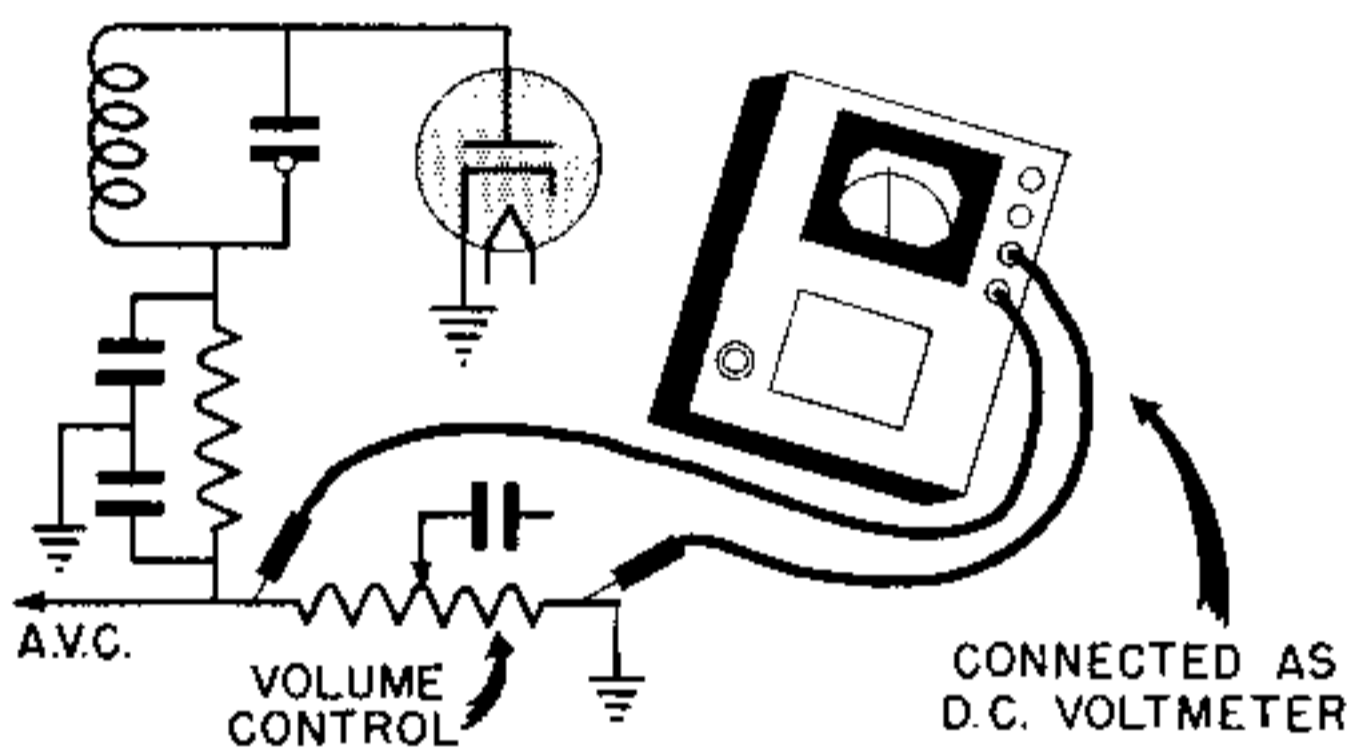
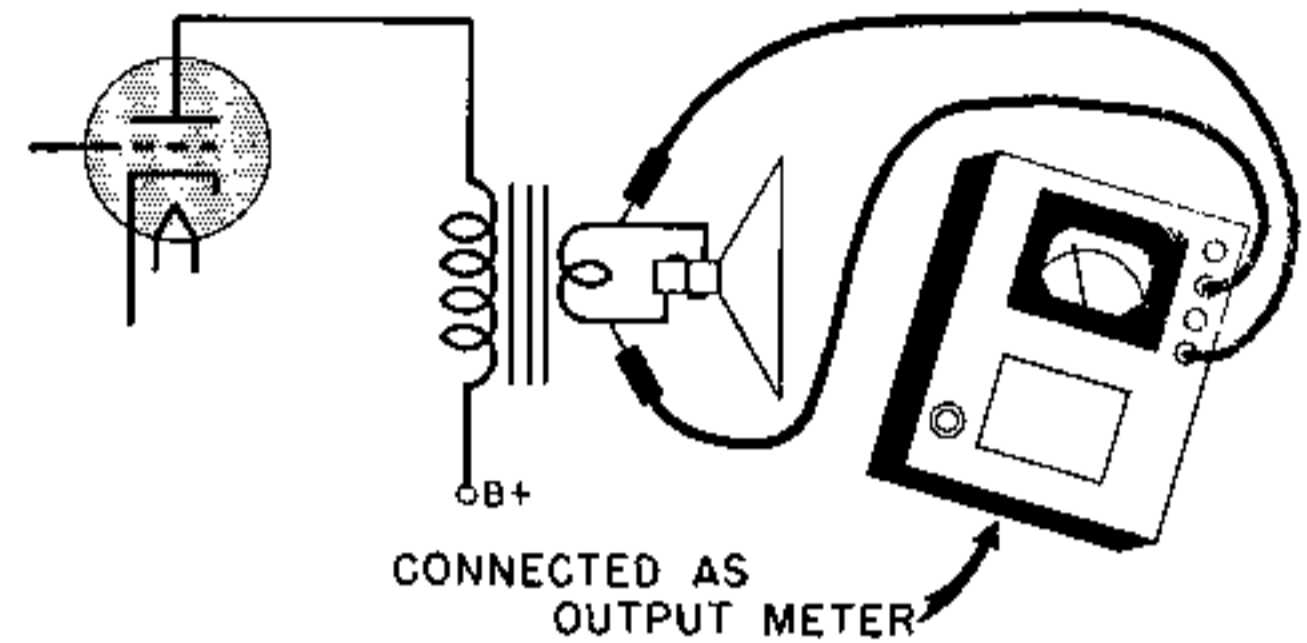

FIGURE 17
FIGURE 18
this is illustrated in Fig. 17. An output indication can also be obtained by connecting an a.c. voltmeter across the receiver's loudspeaker voice coil, as shown in Fig. 18. This method is not
2. Connect the output indicator as previously described. (With sets having a.v.c., whenever possible use a high resistance d.c. voltmeter to measure a.v.c. voltage as an output indication, as shown in Fig. 17.)